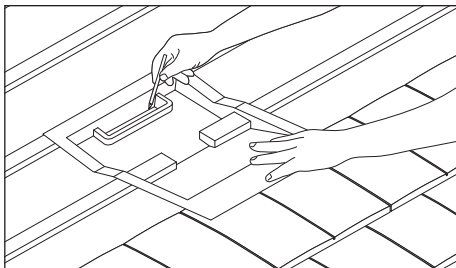

Fig. 4 – Mark aperture
- 2 Mark airway aperture on underlay (Fig. 4).